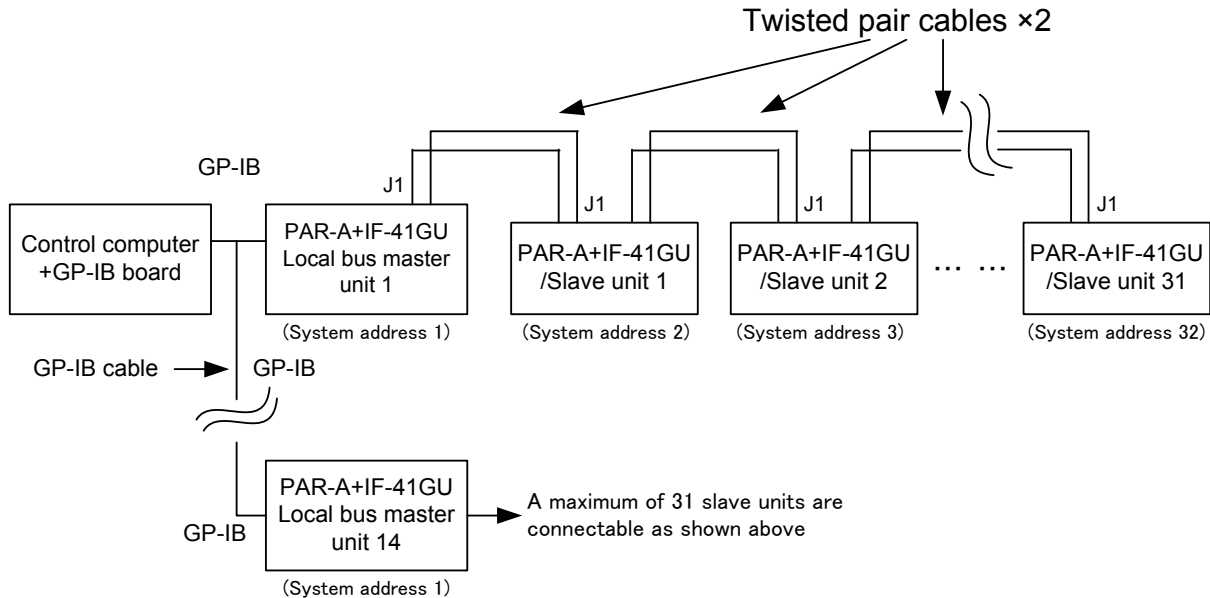

Fig.16 Remote Control through GP-IB using IF-41GU
- It is possible to connect a maximum of 14 local bus master units directly with a computer using GP-IB cables. It is possible to connect a maximum of 31 slave units with each local bus master unit connected directly with the computer using two twisted pair wires. Fig.16 shows the connection diagram.